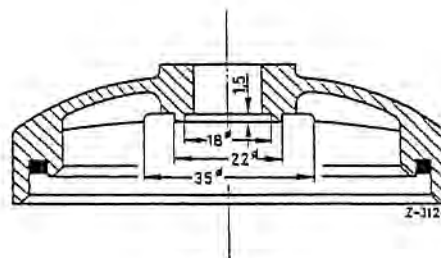

Fig. 09-3/2
as shown in Fig. 09-3/2 — so as to prevent the filter cover from resting on the seal surround and therefore ensure the correct sealing pressure between filter cover and seal (5) (Fig. 09-3/1).
The fuel to be cleaned flows through the feed union (a) into the filter housing, passes through the filter element (7) from the outside and reaches the inside (Fig. 09-3/1). Some dirt retained by the filter element drops down due to vibration while the vehicle is running and collects at the bottom of the filter housing. To remove this dirt, unscrew the sludge drain plug (12) from time to time.